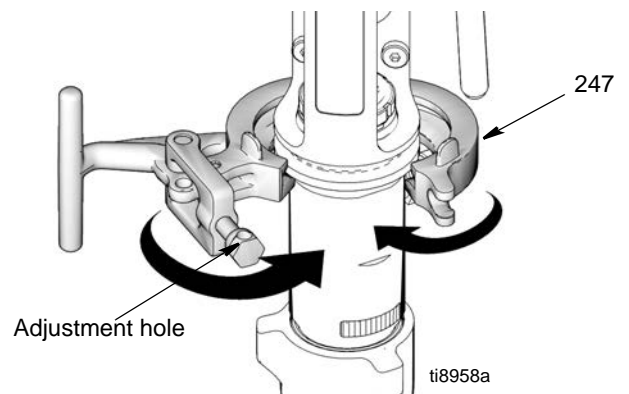

FIG. 22
- 3 (Fig. 22) Close clamp (247) around pump (111) and push it closed.